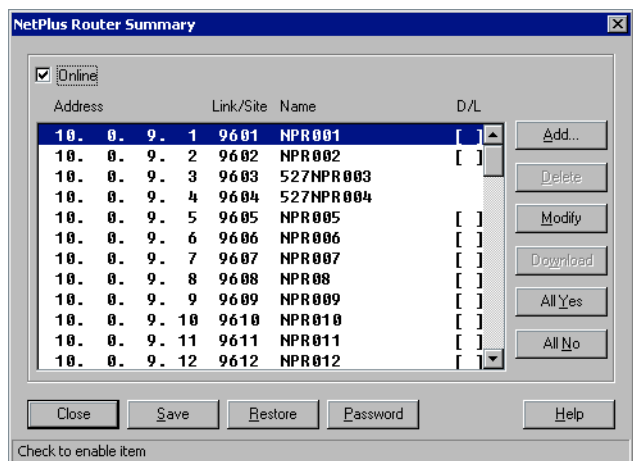

Figure 3-18. NetPlus Router Summary
1. Click the **NP Routers** button on the Configuration Profiles editor. The NetPlus Router Summary screen displays (Figure 3-18).